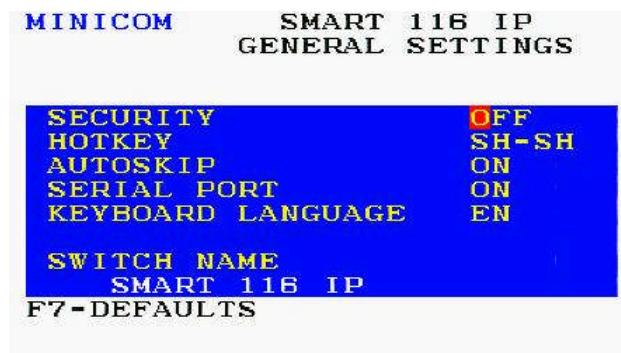

Figure 76 – General Settings Window
1. In the General settings window (see Figure 76), navigate to the **Security** line.
1. In the General settings window (see Figure 76), navigate to the **Hotkey** line.
1. In the General settings window (see Figure 76), navigate to the **Autoskip** line.
1. In the General settings window (see Figure 76), navigate to the **Keyboard Language** line.
The Switch name is displayed under **Switch Name** in the General settings window (see Figure 76). You can substitute up to 18 characters in the line; a space is considered a character. When there is more than one switch in the system, give each Switch's OSD a different name.
In the General settings window (see Figure 76), you can press F7 to restore the OSD to its factory default settings.